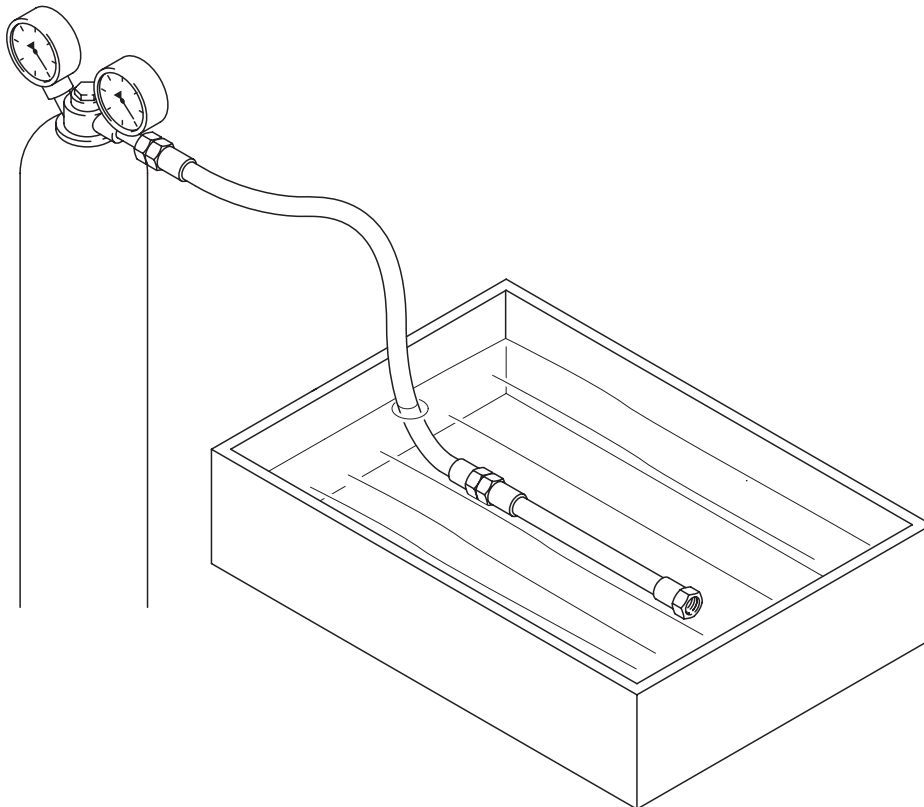

Fig. 405 Testing hoses for leaks
- Seal the hoses and check them for leaks in a water bath using nitrogen or dry compressed air (leak test pressure approx. 35 bar) (see Fig. 405).
- Seal the hoses and examine them for leaks in a water bath using nitrogen or dry compressed air (leak test pressure approx. 35 bar) (see Fig. 405).